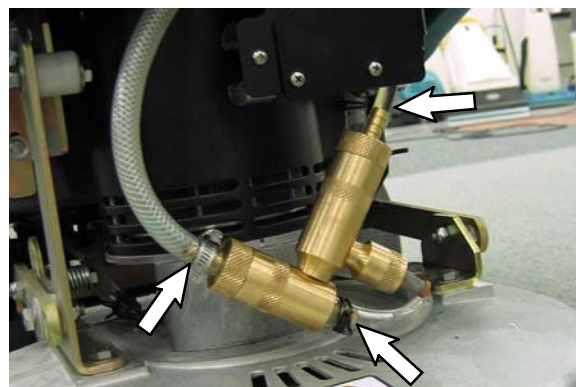

Fig. 9
5. Reconnect to hoses to the new FaST Injector Assembly as shown (Figure 9).